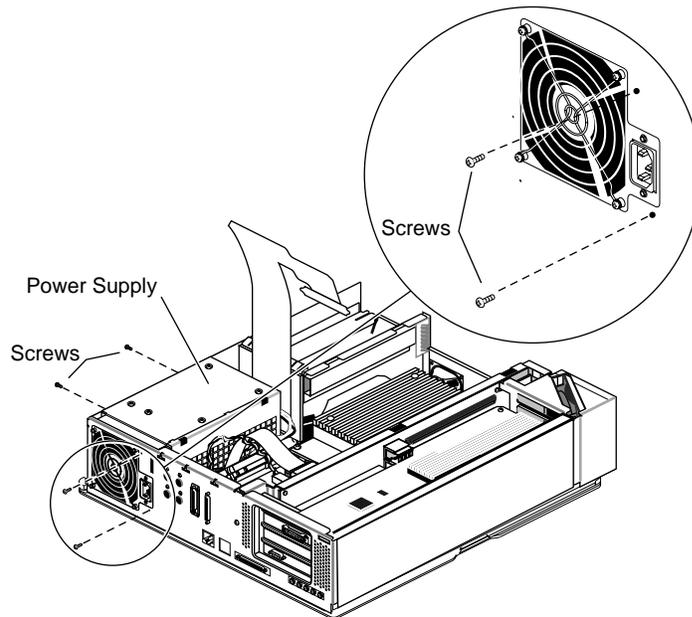

Figure 2-18 Replacing the Screws
4. Replace the four screws that hold the power supply, as shown in Figure 2-18.